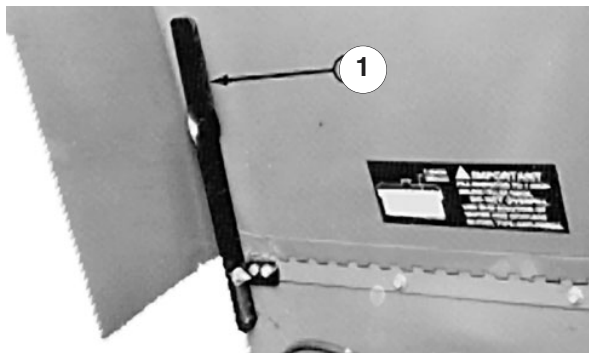

Figure 2
3. Slide the bottom of the hood prop (Fig. 2) from the retaining bracket. Lower the hood prop, pivot it upward, then downward to prop up the hood.